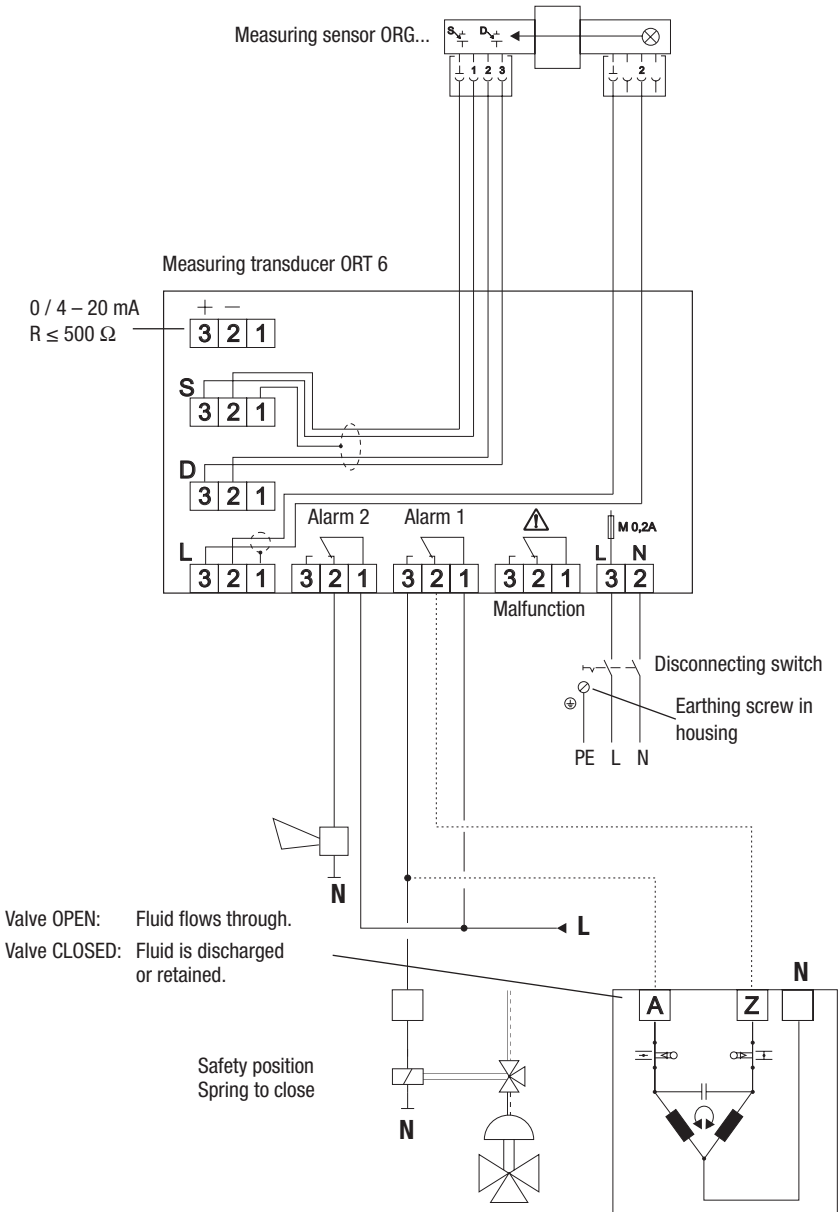
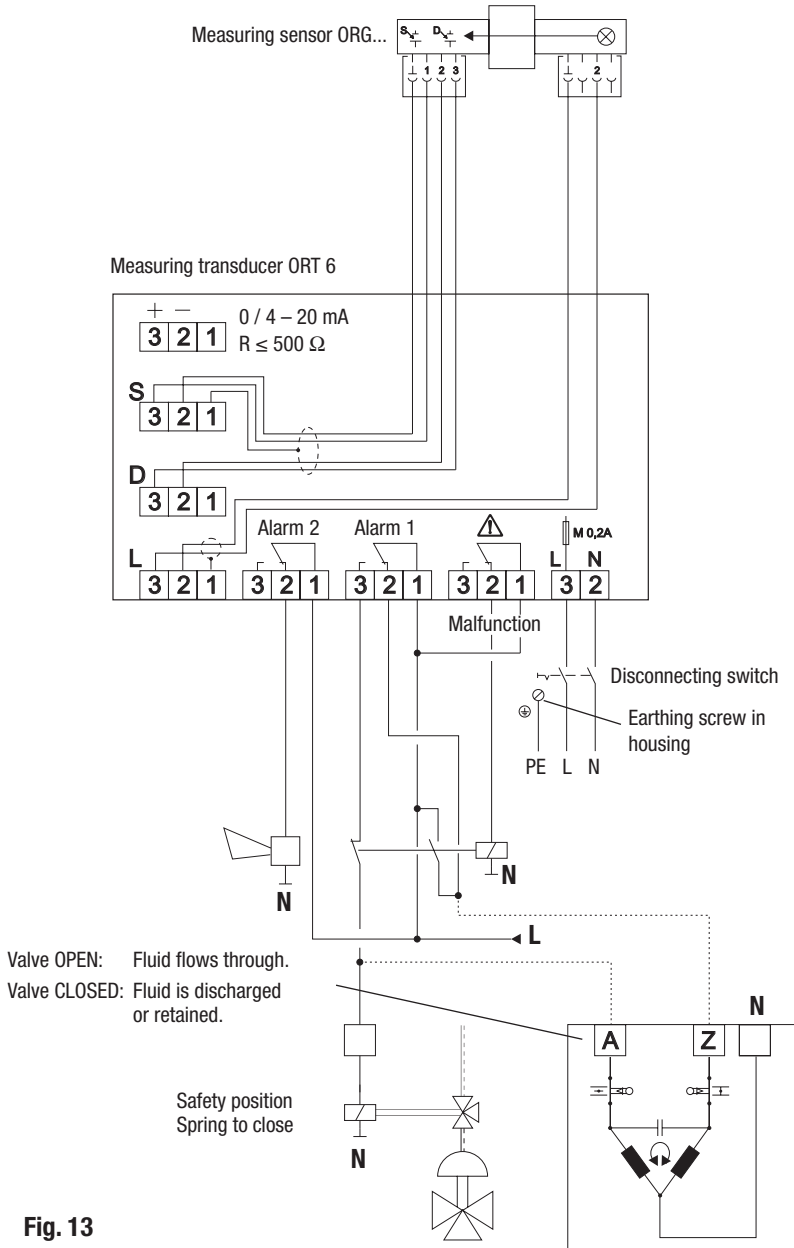

Fig. 12
Fig. 13
6. Pull the cable through the cable gland 34 and connector upper part 29 and connect the terminals of the connection panel 30 as shown in the wiring diagram **Figs. 12 and 13**.
However, the malfunction can be included in the control of the three-way switch-over valve as shown in the wiring diagram **Fig. 12**.
Valves with a single-phase AC motor and max. power rating of 50 VA (see wiring diagram **Fig. 12** or **Fig. 13**) can also be connected directly. Install a reversing contact in between in the case of three-phase actuators.